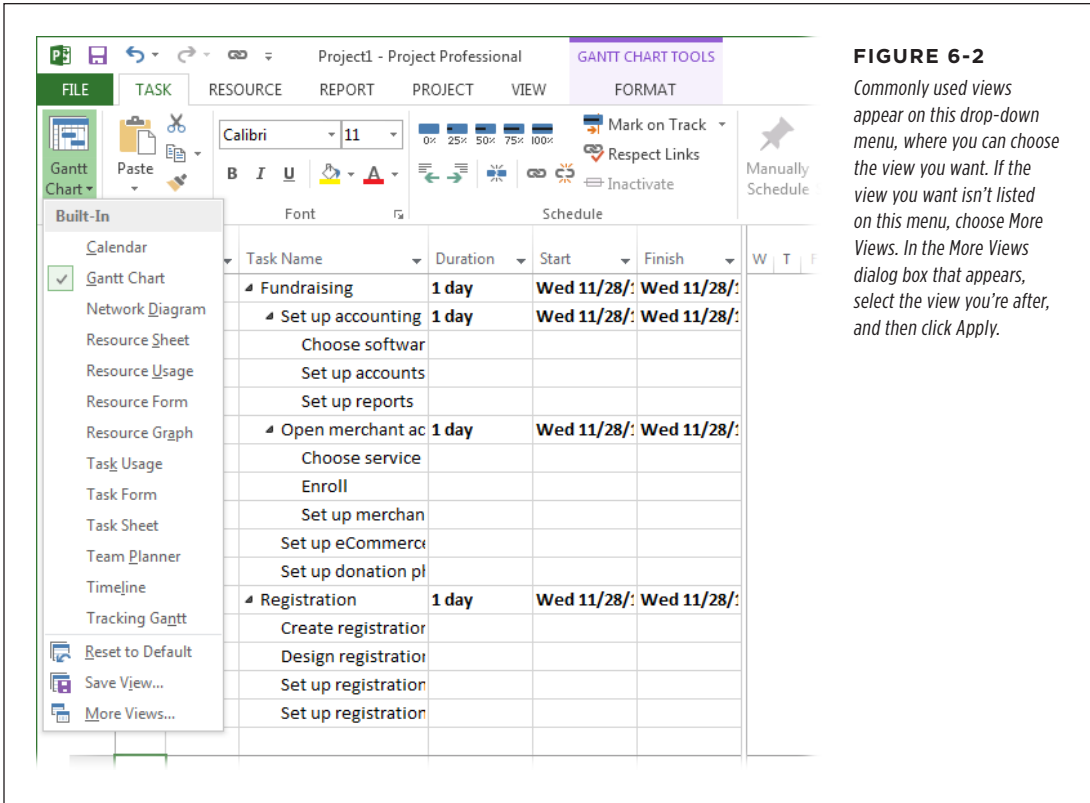

FIGURE 6-2
- 1. If you're not already in Gantt Chart view, then on the ribbon's Task tab, click the bottom half of the Gantt Chart button (Figure 6-2), and then click Gantt Chart on the drop-down menu that appears.**